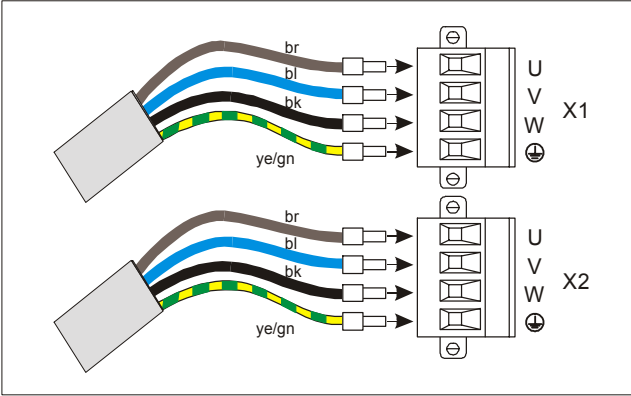

Bild 6-2 Motor connection
1. Release the two screws and remove the connector X1 or X2 (fig. 6-2) from the unit.